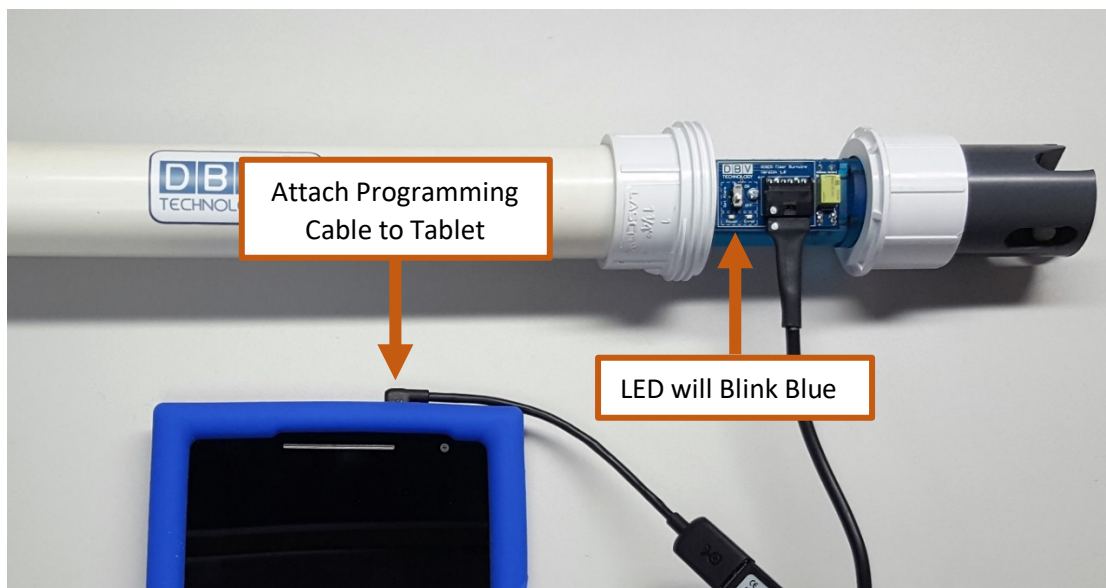

Figure 4
5. Power on the Tablet and plug the other end of the programming cable into the tablet. Notice that the “Power” LED brightens and fades three times indicating that the system is booting up. See Figure 4.